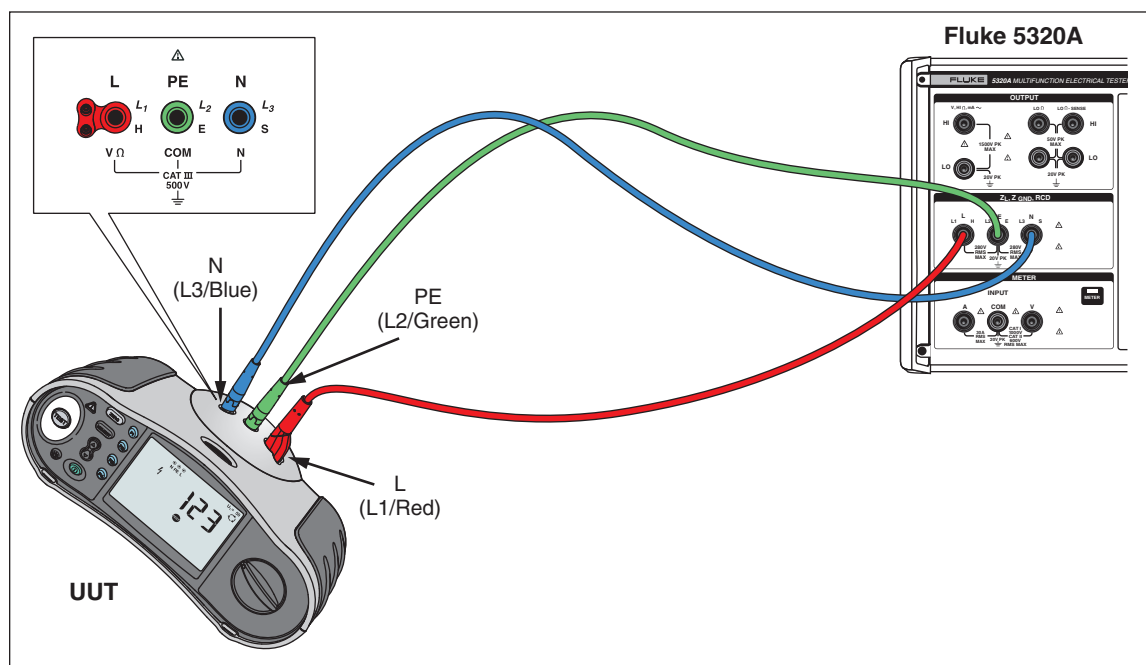

Figure 9. Loop Z₁ Hi Current Line Impedance and RCD Tests
1. Connect the test leads to the UUT and 5320A as shown in Figure 9.
1. Connect the UUT's L, PE and N to the 5320A as shown in Figure 9.
1. Connect the UUT's L, PE, and N to the 5320A as shown in Figure 9.